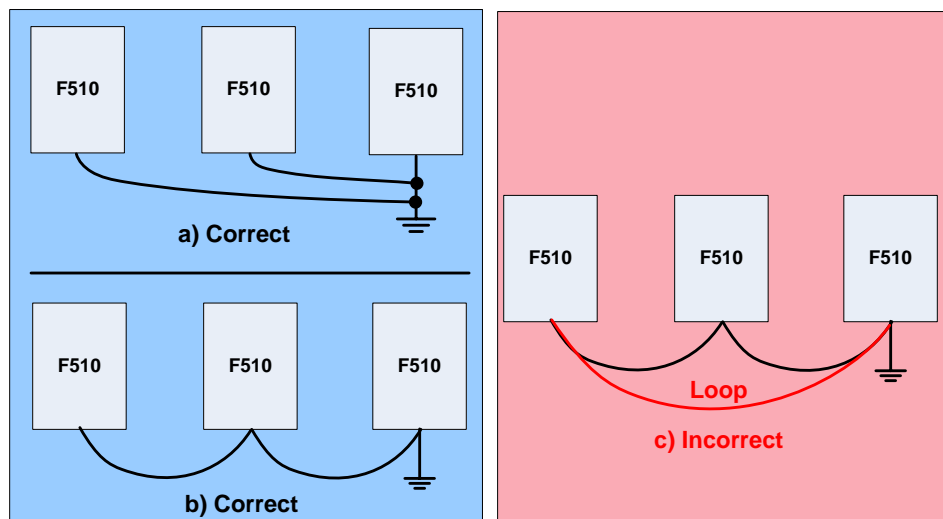

Fig. 3.12.1 Inverter Grounding
1. Connect the ground terminal (E) to ground having a resistance of less than 100Ω.
4. When using more than one inverter, be careful not to loop the ground wire. See examples below in Fig. 3.12.1.